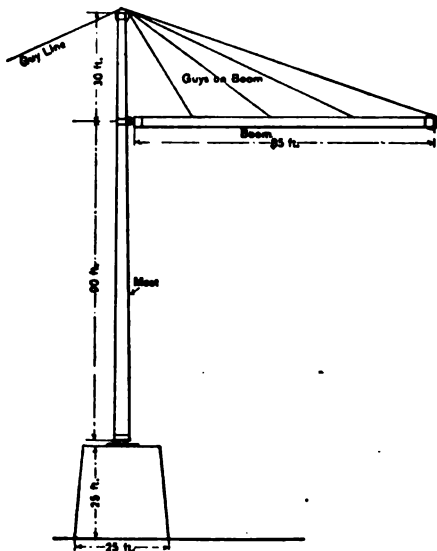

Fig. 1.—Diagram of Derrick Submitted by "H. O. R."
**W**ILL you kindly publish in your paper or have Mr. Kidder give a method of computing the strains on the different parts of a crane derrick, as shown in the accompanying sketch, Fig. 1, and say if it would be practicable to build one of the dimensions indicated? The blocks on the boom would be on a carriage and run on the boom. The mast would be set on blocking 25 feet high. There would be four main guys from the top of the mast.